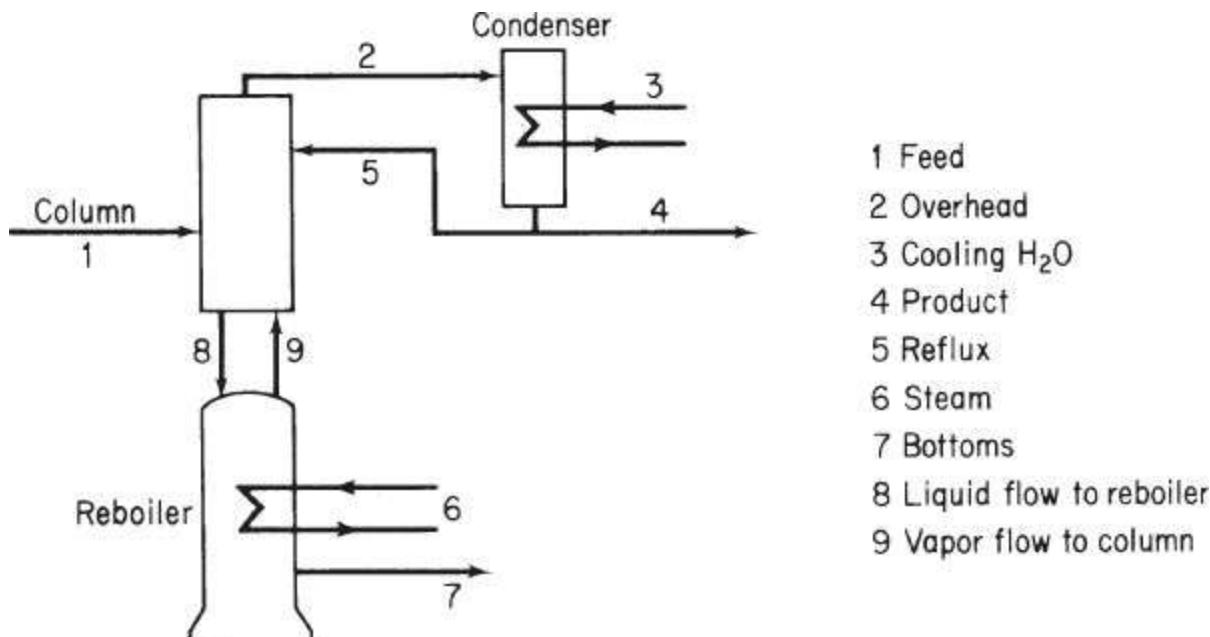

Figure P6.1.4
**6.1.4. The diagram in Figure P6.1.4 represents a typical but simplified distillation column. Streams 3 and 6 consist of steam and water and do not come in contact with the fluids in the column that contains two components. Write the total and component material balances for the three sections of the column. How many independent equations would these balances represent? Assume that stream 1 contains n components.